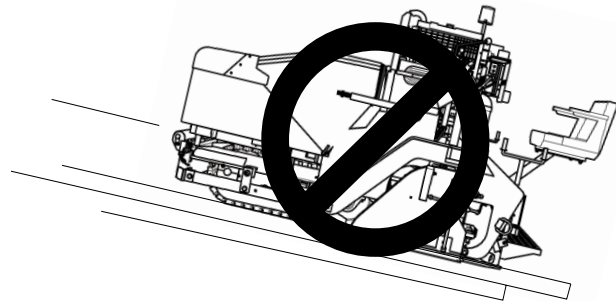

Figure 4-42. Incorrect Loading/Unloading Position
**CAUTION** Paver must be loaded with the screed end first to prevent damage. If the paver is loaded hopper end first, the weight will tend to tip the paver onto the screed (Figure 4-42).